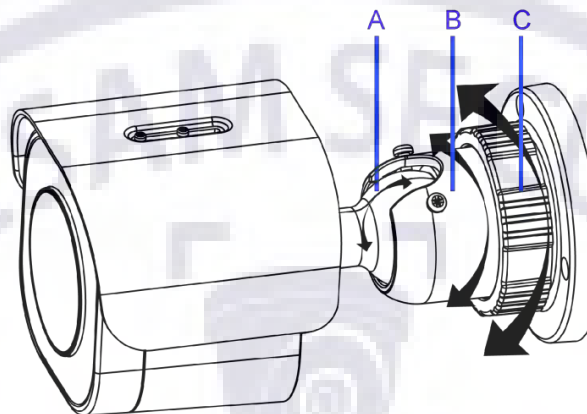

Figure 6
The camera has three axes to adjust the field of view for different Applications (Figure 6). While screening live view on your monitor, adjust the axes as per the information below.
- **Tilt Adjustment (A – Figure 6)** Tilt this joint to adjust the camera vertically. The Tilt range is 0° – 90°.
- **Pan Adjustment (B – Figure 6)** Rotate this joint to adjust the camera horizontally. DO NOT rotate over the default limit of $\pm 360^\circ$.
- **Locking Ring (C – Figure 6)** Rotating the C ring counter-clockwise, the Pan & Tilt joints loosen and you can adjust for different angles. Rotating the C ring clockwise fastens the pan & tilt joints altogether.